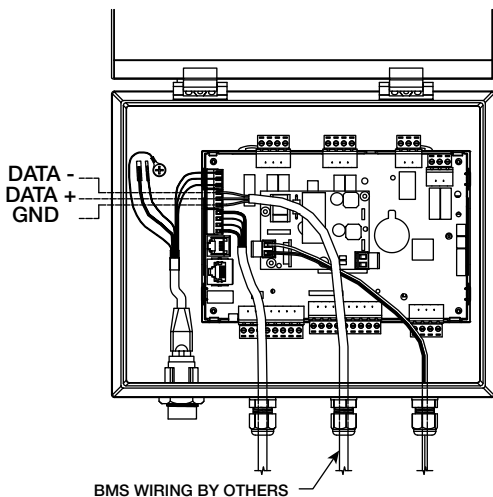

Figure 1
6. If control panel was provided with optional BACnet MSTP communication for building management system (BMS) integration, route an RS-485 communication cable (provided by others) from the BMS to the control panel through the unused cable gland on the exterior of the control panel enclosure. Connect the RS-485 communication cable to the BACnet terminal block on the control panel circuit board, as shown in Figure 1.